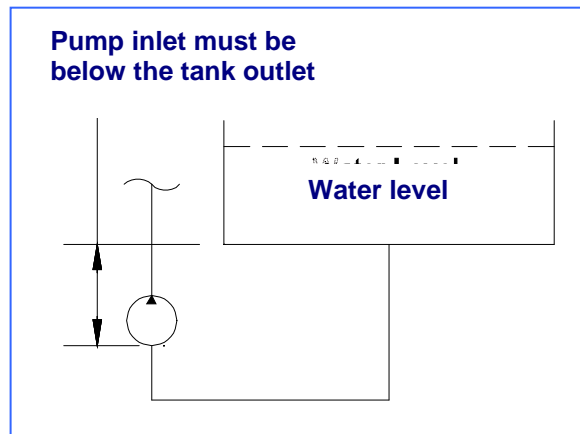

Figure 4.3 – Gravity Feeding Source
- c) Gravity feeding water source (See Figure 4.3). Use a hose with a diameter of at least 1-1/2” to connect the water tank to the power unit water inlet.
Ensure that the water source can reliably deliver the maximum pump flow of 30 GPM (115 LPM). A minimum flow of 40 GPM (150 LPM) is recommended to ensure that the pump is not starved of water. If connecting to a gravity feed tank, locate the tank outlet above the water inlet connection on the power unit to ensure a flooded suction line. (See Figure 4.3).